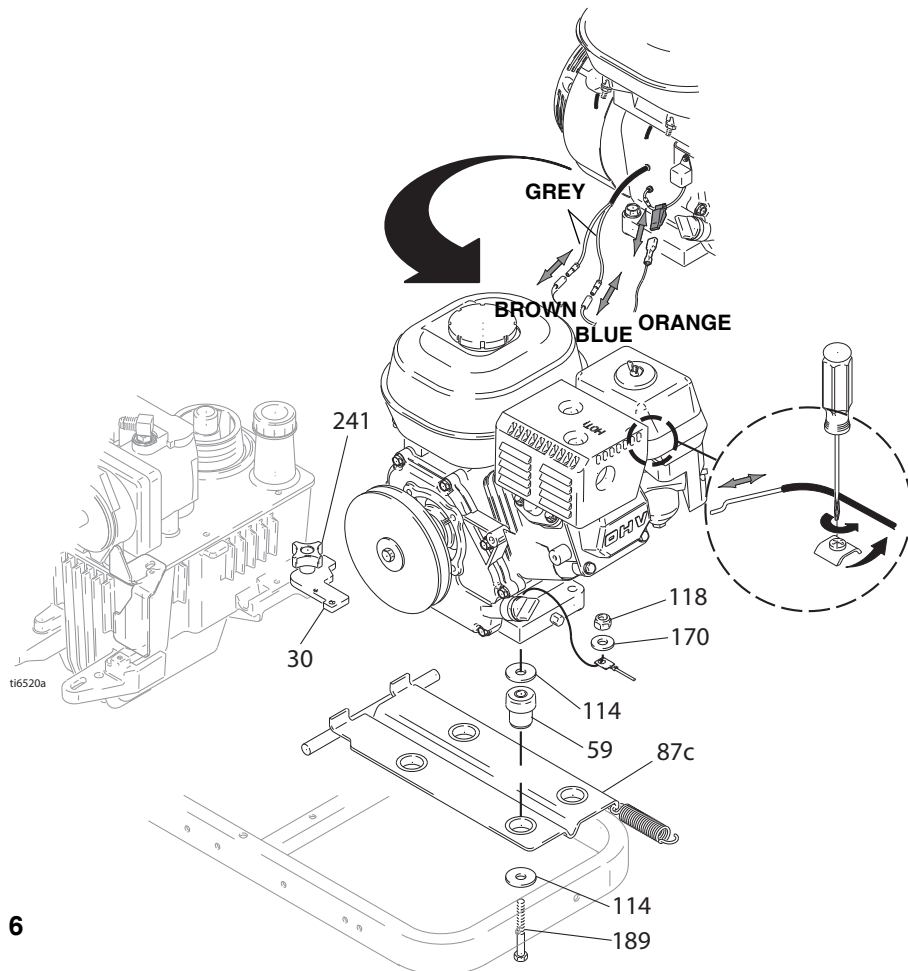

Fig. 6
- 4 Loosen hand nut (241). Swing bracket (30) out.
- 5 Fig. 6. Disconnect blue, brown and orange leads from engine (185).
- 7 Remove four screws (189), washers (114), washers (170) and nuts (118) and remove rocker plate, dampers (59) and washers (114) from engine.